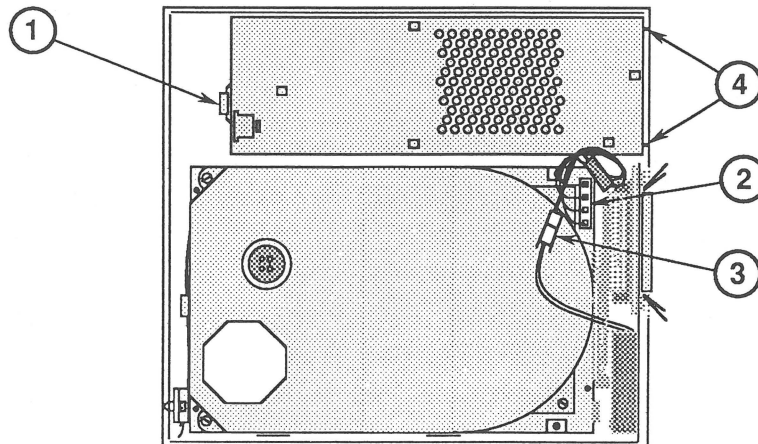

FIGURE 2
2. Push back the power supply tab (Figure 2, #1), lift up the front edge of the power supply, and rest it on the front of the case.
3. Disconnect the power supply connector (Figure 2, #2) from the hard disk assembly.
4. Disconnect the fan cable by releasing the little holding clip on the connector (Figure 2, #3).
2. Connect the fan cable (Figure 2, #3). It fits only one way.
3. Connect the power supply connector (Figure 2, #2) to the hard disk assembly. It fits only one way.
4. Carefully slide the power supply toward the tabs (Figure 2, #4) on the inside back of the case bottom until the tabs fit into the holes in the power supply's metal case.
5. Carefully settle the power supply into place, so that the edge of the metal bracket fits under the tab (Figure 2, #1).